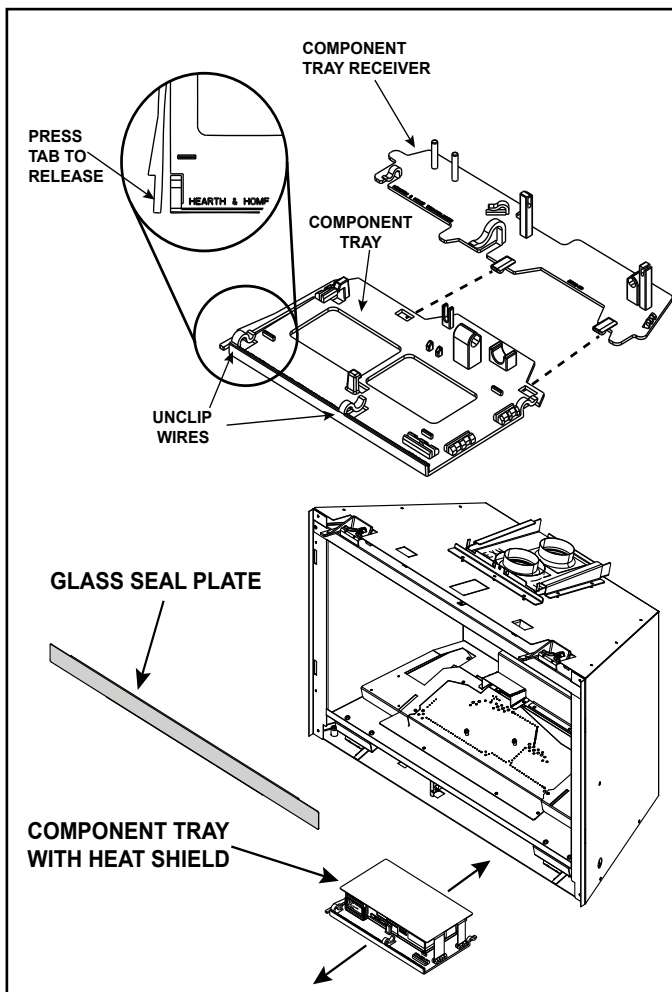

Figure 4.4 Component Tray Access
- For access, slide out component tray. See Figure 4.4.
Note: Wires may need to be removed from clips for full access. See Figure 4.4.